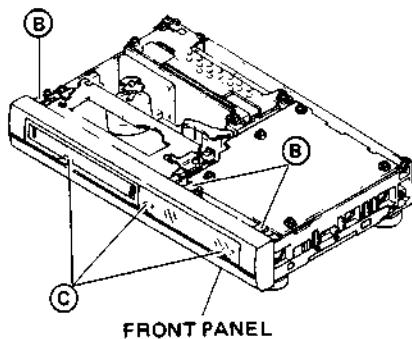

Fig. 1-1-2 Front panel
3. Refer to Fig. 1-1-2 and pull the front panel assembly forward you to disengage 3 tabs **(C)** of the front panel assembly from the bottom side of the chassis, then remove the front panel assembly.